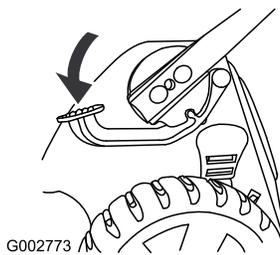

Figure 36
1. Step on the foot pedal and hold it down (Figure 36).